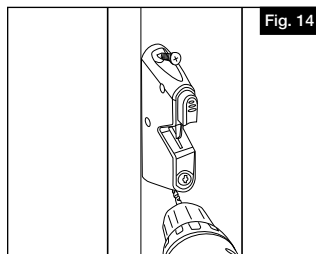

Fig. 14
- b. Align the latch to the pre-drilled holes and secure to post using two 1" screws (Fig. 14).